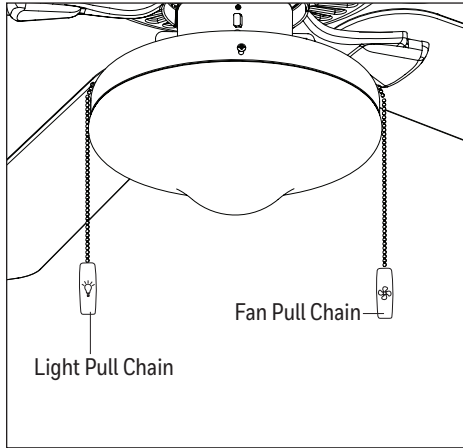

Figure 7.1
1. The fan pull chain has four positions to control fan speed. One pull is high, two is medium, three is low and four turns the fan off. The light pull chain has two positions to control the light, on and off. (Figure 7.1).